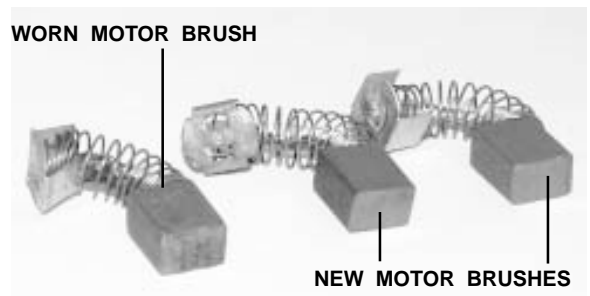

Figure 29. Motor Brushes
5. Inspect the brushes for wear. See figure 29.